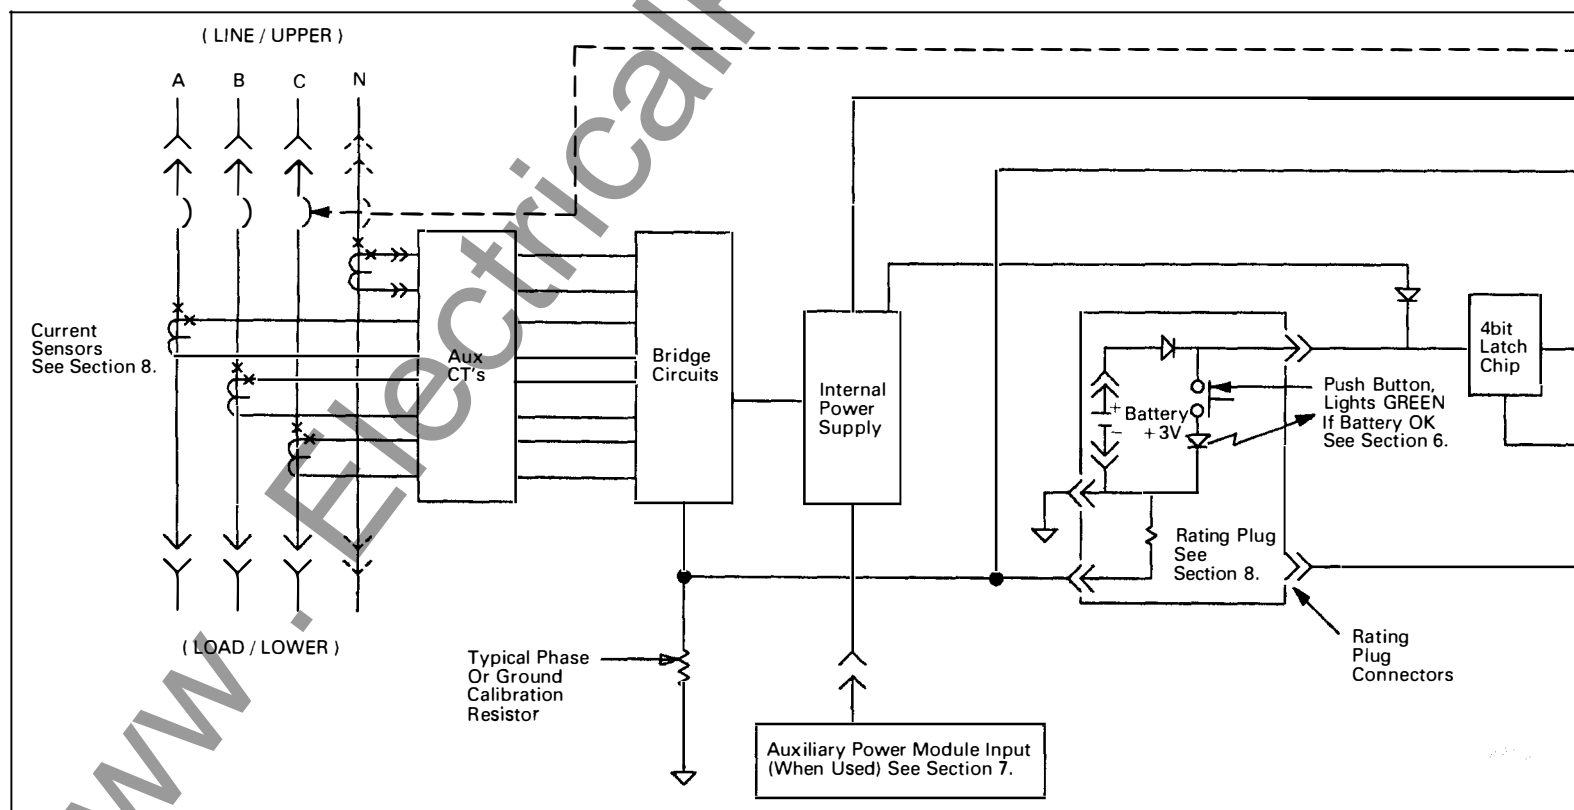

Fig. 3 Digitrip RMS 510 Block Diagram with Breaker Interface
The trip unit employs the Westinghouse custom designed integrated circuit μ RE + chip, which includes a microcomputer to perform its numeric and logic functions. The principle of operation is described by the block diagram shown in Fig. 3.
The LEDs, shown in Figs. 1 and 2.1-2.6, on the face of the trip unit, light "RED" to indicate the reason for any automatic trip operation. As indicated in Figs. 2.1-2.6, each LED is strategically located in the related segment of the time-current curve depicted on the face of the trip unit. The reason for trip is identified by the segment of the time-current curve where the LED is lighted "RED". Following an automatic trip operation, the back-up battery, continues to supply power to the LEDs as indicated in Figs. 3 and 6. To check the status of the battery, see Section 6.
Zone Selective Interlocking (or Zone Interlocking) is available (see Fig. 3) for Digitrip RMS Trip Units having Short Delay and/or Ground Fault protection. Zone Selective Interlocking provides the fastest possible tripping for faults within the breaker's zone of protection, and yet also provides positive coordination among all breakers in the system (mains, ties, feeders and downstream breakers) to limit the outage to the affected part of the system only. When Zone Interlocking is enabled, a fault within the breaker's zone of protection will cause the RMS DIGITRIP trip unit to:
- 2) There is a condition under which the Long Delay Trip LED can erroneously indicate a LDT has occurred, even though the breaker is still closed. This can happen when an overload current momentarily exceeds the Long Delay Current Setting, I_r , so that the Long Delay LED flashes "RED" to indicate the overload condition. Then if, at the very moment when the LED is "ON", the load current would then suddenly drop to a value less than 10% of the breaker frame (or current sensor) rating, the trip unit stops functioning while the "4bit Latch Chip" (See Fig. 3) is set and the LED remains Lighted. If the current would again increase to a value above the Long Delay Current Setting, I_r , and then return to normal, the LDT will reset itself. You can of course, manually clear the LDT (or any other trip indication) at any time, by pushing the red "PUSH to RESET" button. (See Figure 1.)